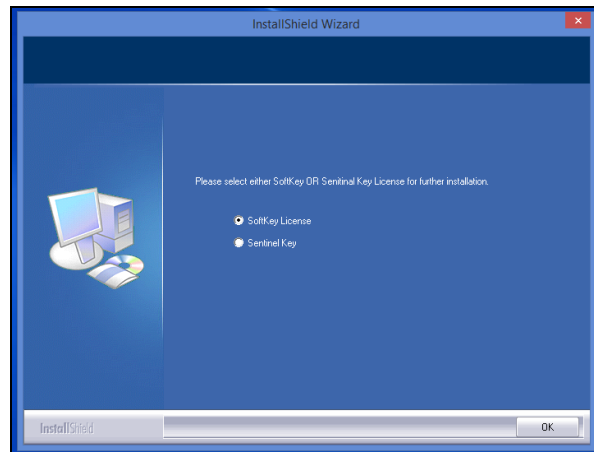

Figure 4. Software Key License
2. A warning message to activate the license will be displayed as shown in Figure 4.